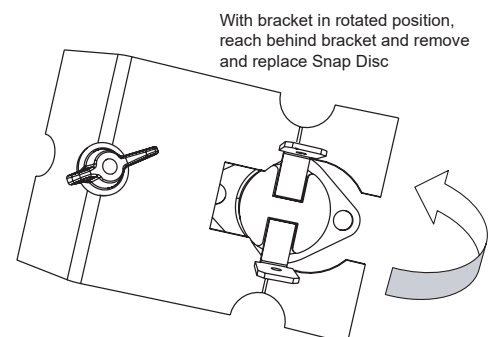

Figure 28.5
- j. When bracket is loose enough, rotate the bracket counterclockwise and away from feed tube (**Figure 28.5**).